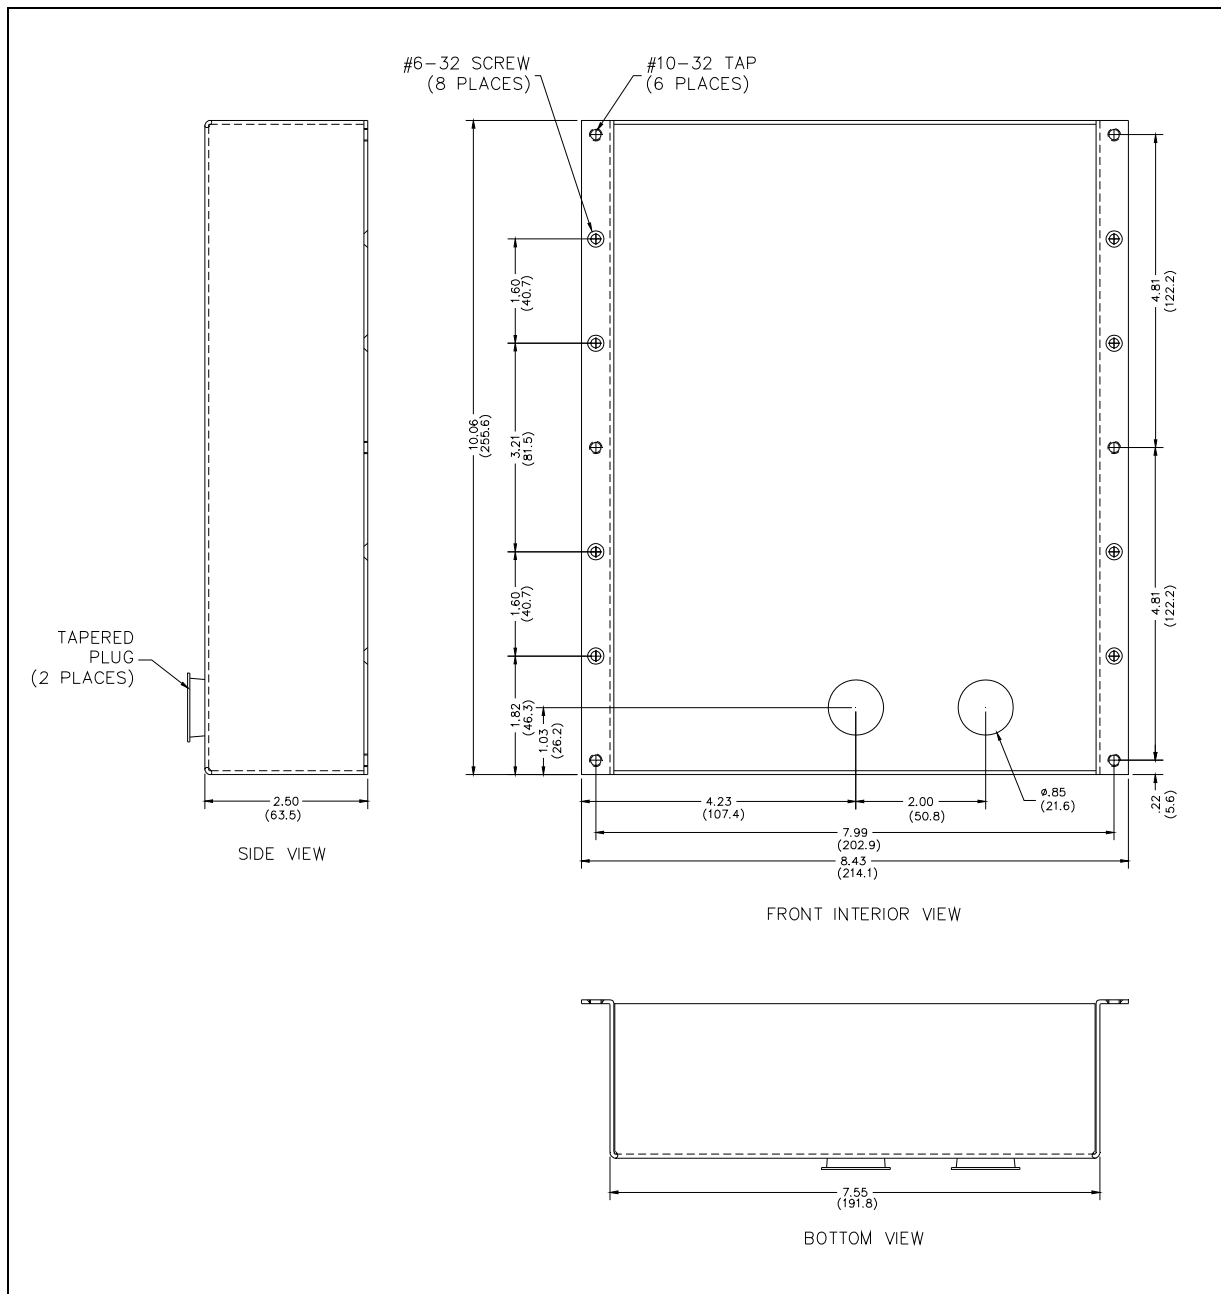

Figure 9. Model 397-00xAD Mounting Details
1. When mounting in a GAI-Tronics Model 234 Series Stanchion, or for flush-mount installations, the supplied back box must be used. Mount the back box to the structure using appropriate hardware. Refer to Figure 9 cutout dimensions.
4. Connect the telephone's modular plug to a USOC RJ11 or CA11A (Canada) modular connector or (if applicable) the telephone line suppressor. An inline coupler is provided for use, if necessary. Refer to Figure 9 for mounting details and Figure 15 for component locations.